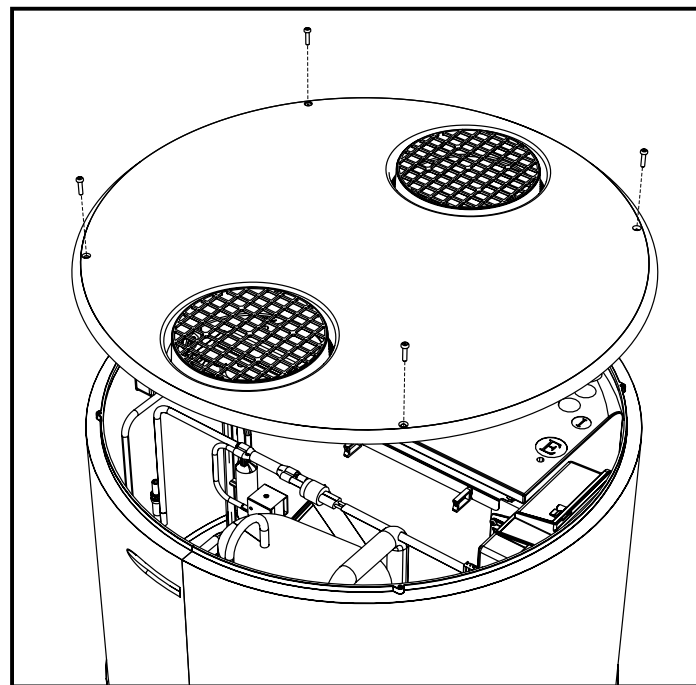

fig. 29- Top cover removal
- Remove the top cover by first undoing the locking screws (fig. 29).